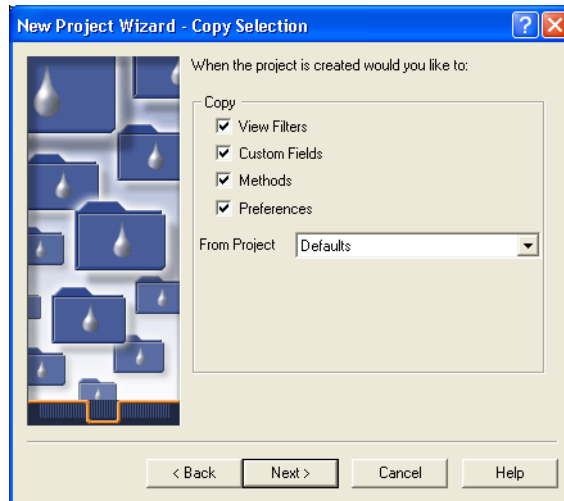

Figure 3-13 New Project Wizard–Copy Selection Page
6. The Access Control page establishes the level of access users and user groups will have to the project you create. Determine the appropriate access for the system, enter the information, then click **Next**. The Copy Selection page appears (Figure 3-13).